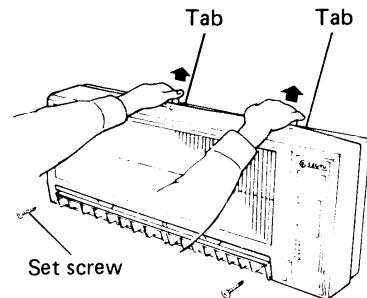

Fig. D-1
- 1) Remove the two (2)* set screws holding the casing to the indoor unit with a Phillips screwdriver. *SAP 121KC has three (3) screws.
- 2) Pull up the casing by hand, press down on tabs on top, then withdraw the casing by pulling it back straight. Fig. D-1.